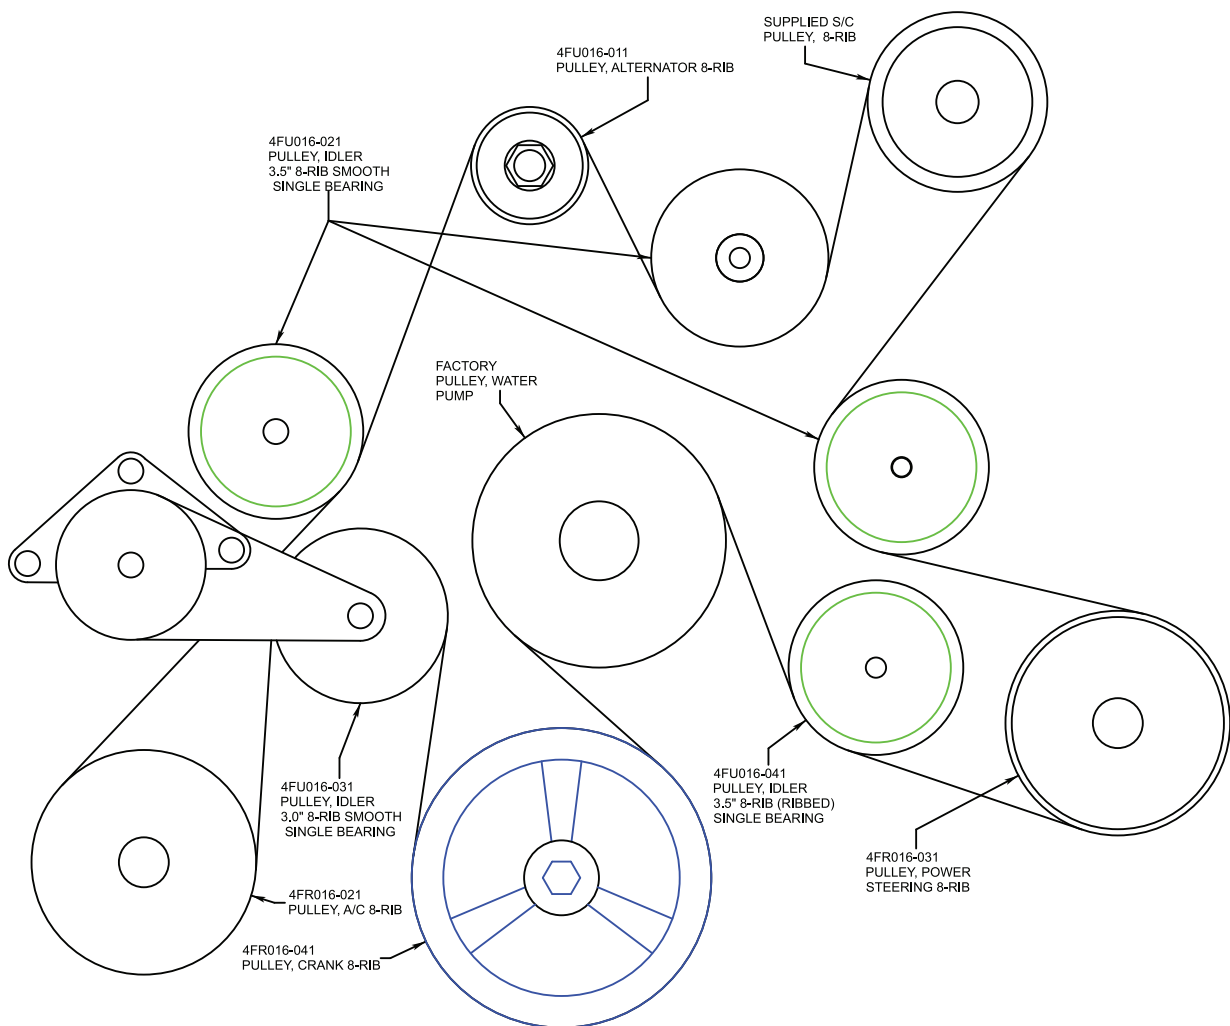

Fig. 2-c
- I. Loosely install the 8-rib drive belt provided using Fig. 2-c for belt route reference. Not all pulleys are installed at this time.
NOTE: See Fig. 2-d for the next few steps.